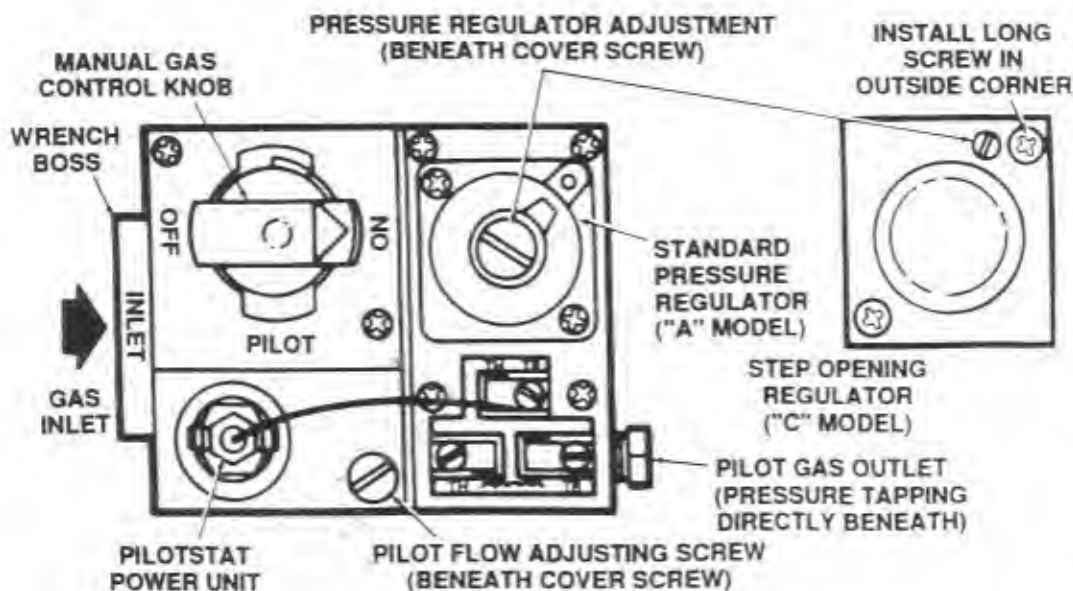

Figure 12. Top View of Standard Capacity Gas Control.
- Remove pilot adjustment cover screw. Refer to Figure 12.